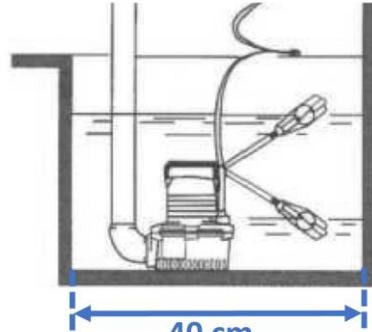

Fig. 2
- **IMPORTANT:** Before submerging the pump in water, unwrap the power cable (4) and ensure the plug is clear of any damp locations.
- Allow a minimum space diameter of 40 cm for operation (see Fig. 2), so that the movement of float switch is not obstructed.
- For deep water, use a rope (not included) and secure it to the carrying handle (1), then set the pump in the desired position within the work area.